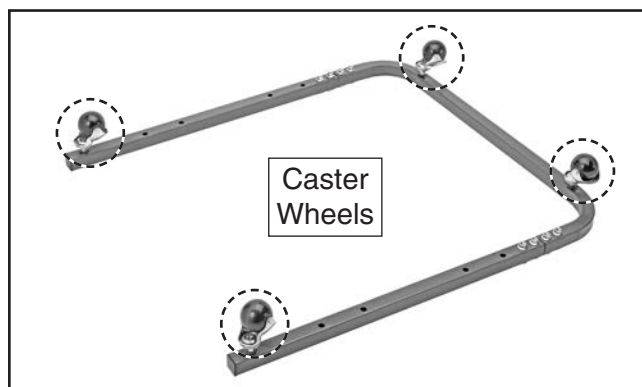

Figure 6. Caster wheels installed on base.
5. Install (1) $\frac{5}{16}$ "-18 hex nut on each of (4) caster wheels, then install wheels on base, as shown in **Figure 6**.